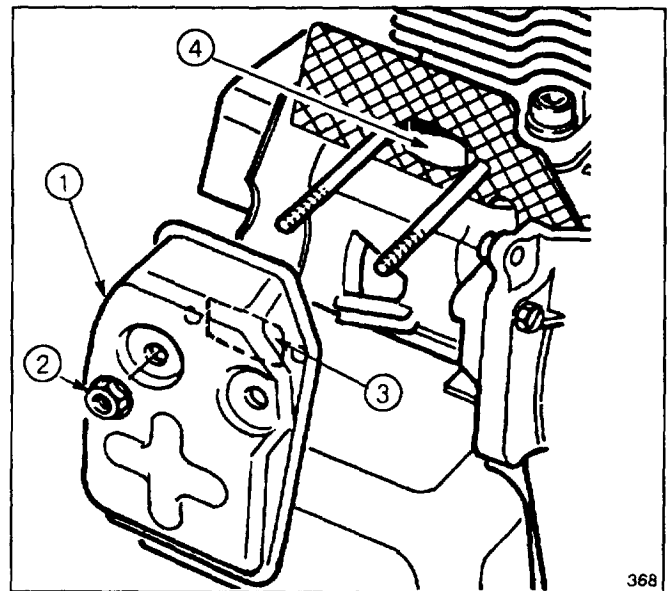

Figure 15
2. Remove two (2) nuts securing muffler to engine (Fig. 15). Remove muffler.
3. Clean any carbon build-up from muffler port (Fig. 15).
4. Pull recoil starter slowly to rotate the engine crankshaft until the piston totally covers the exhaust port (Fig. 15). Clean the exhaust port area by using a clean, flat piece of hard wood. Remove all loose particles.